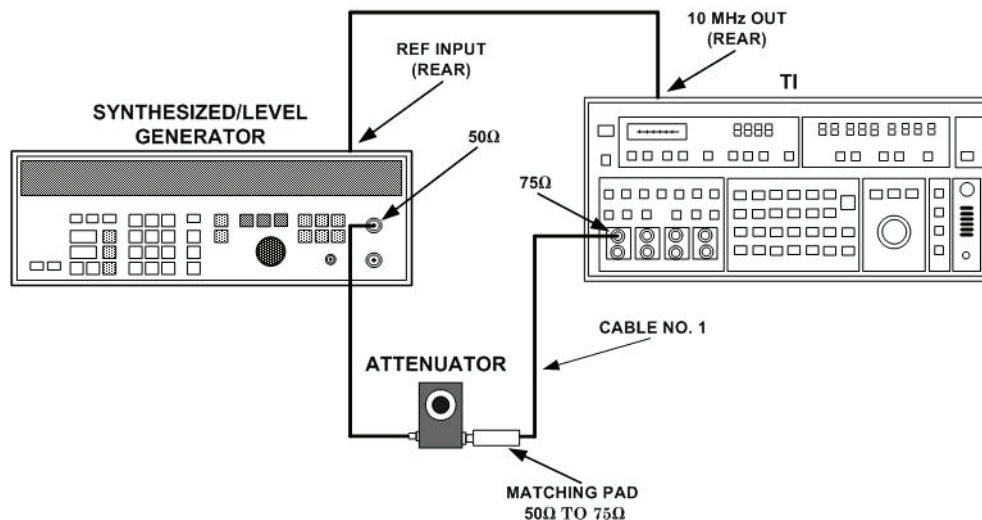

Figure 1. Counter check - equipment setup.
- (1) Connect equipment as shown in figure 1.